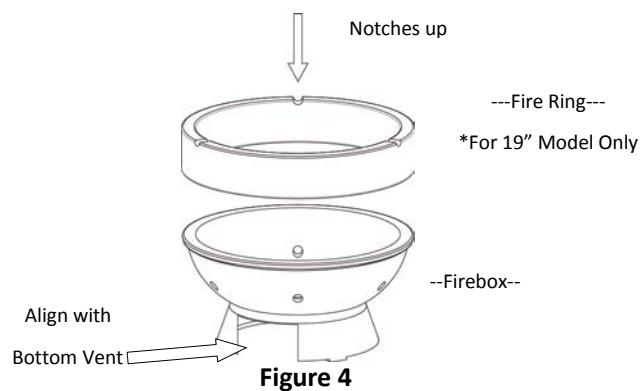

Figure 4
**STEP 6** Place the fire ring on top of the firebox with notches up. The notches are used to secure the legs of the Cooking Grid Elevator. (See Figure 4)